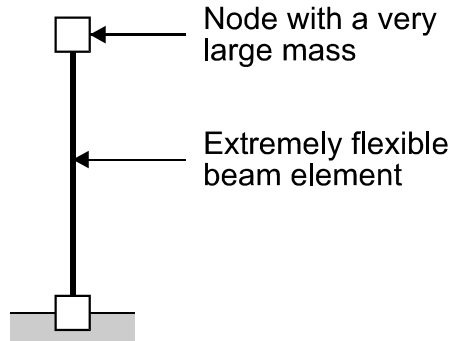

Figure 16.1 Displacement Gage for Converting Ground Accelerations to Ground Displacements
If you have only a ground acceleration record, you must double integrate it to get the ground displacement record. You can do this directly, for example using a spreadsheet program. Alternatively you can use a simple PERFORM structure that models a displacement gage. This structure is shown in Figure 16.1.
If you double integrate an acceleration record, you must choose an integration method and an integration time step. If you analyze the structure in Figure 16.1, the integration method is the CAA method in PERFORM, but you must still choose a time step. The following method is suggested.
- (2) Use this time step to analyze the displacement gage in Figure 16.1, and output the displacements at every time step. This is the displacement record.